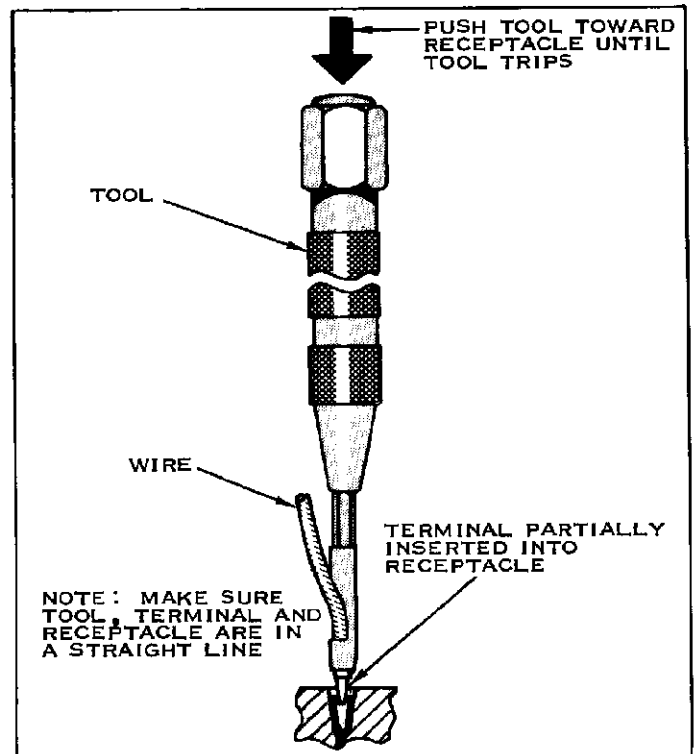

FIGURE 3
5. With the Terminal in the Tip, insert the Terminal into the Receptacle. See Figure 3. While inserting the Terminal keep the Tool, Terminal and Receptacle in a straight line. See Figure 3.